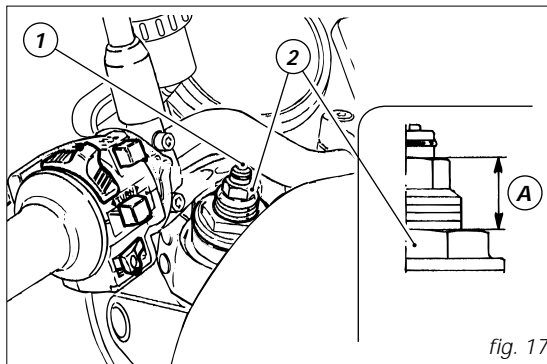

fig. 17
1) (fig. 17) to adjust rebound damping;
2) (fig. 17) to adjust spring preload;